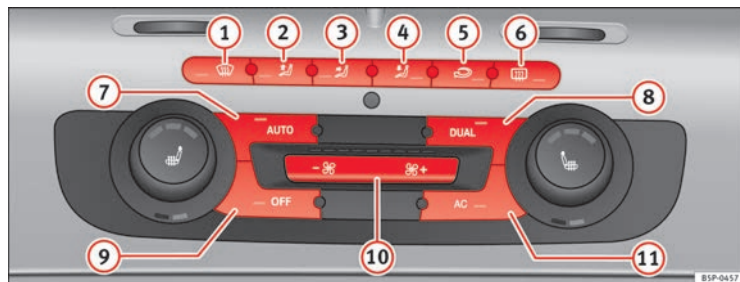

Fig. 130 On the dash panel: 2C Climatronic controls
- Turn the temperature control knobs ⇒ fig. 130 to adjust the temperature on the left hand side or the right hand side respectively.
- Press **AUTO** ⇒ fig. 130. “AUTO High” is shown on the radio display (high fan speed).
- Press **AUTO** again ⇒ fig. 130. “AUTO Low” is shown on the radio display (low fan speed).